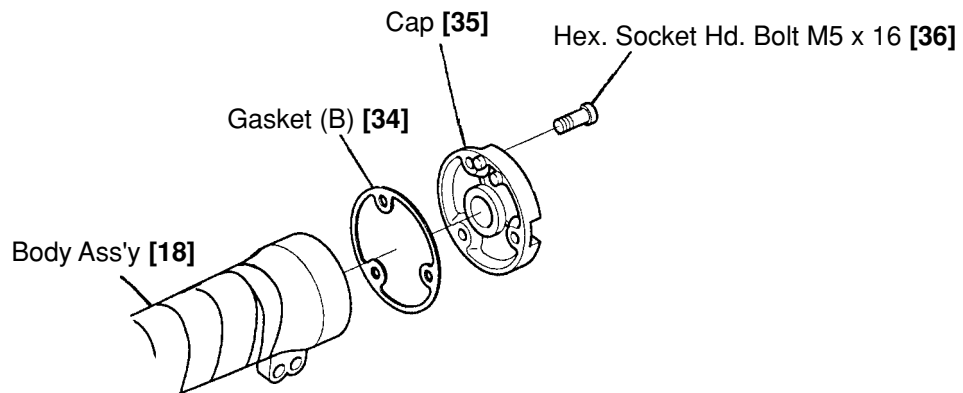

Fig. 32 Disassembly and reassembly of the cap
(1) Disassembly and reassembly of the Cap [35] (See Fig. 32.)